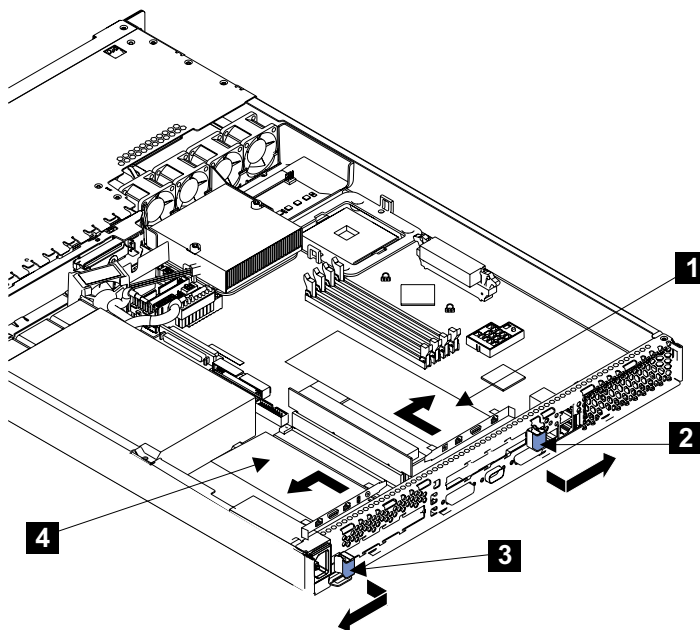

Figure 94. Removing an adapter
4. Refer to Figure 94 on page 146